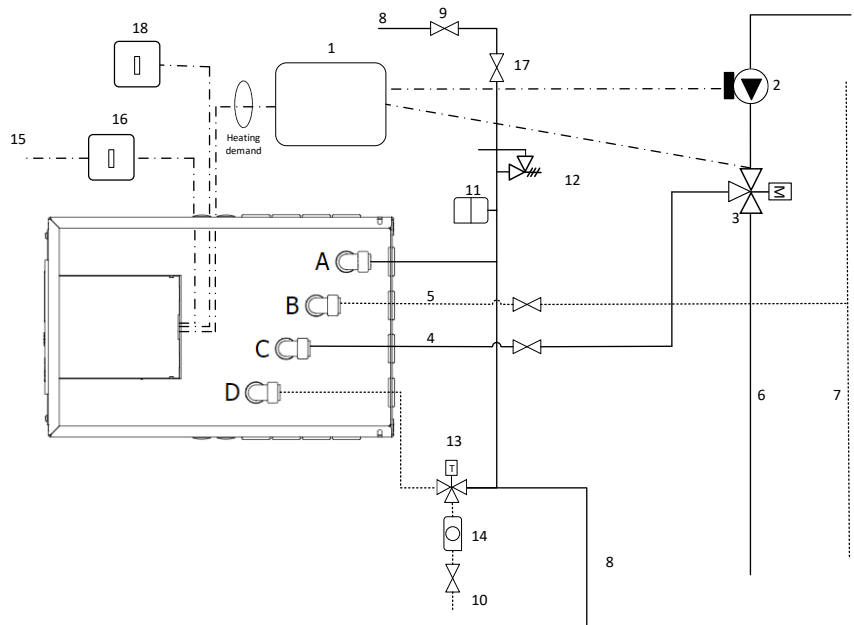

Figure 13.1: Example Wiring Option 2 Schematic (see Figure 3 for piping and electrical options available)
- Run and connect 3 Core mains power supply cable (16A, minimum 2.5mm2 CSA) from the local 2-pole isolator 13A to the Heat Battery controller (Figures 13.1 and 13.2).